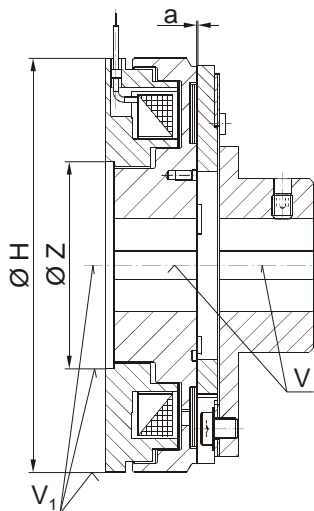

Fig. 5
- Centred on diameter "Z", Fig. 5 and Table 1.
- Centred on outer diameter "H", Fig. 5.
The maximum permitted centre offset "V₁" acc. Table 1 must not be exceeded (Figs. 5 and 6).
Please observe the maximum permitted centre offset "V" according to Table 1 and Figs. 5 or 6.